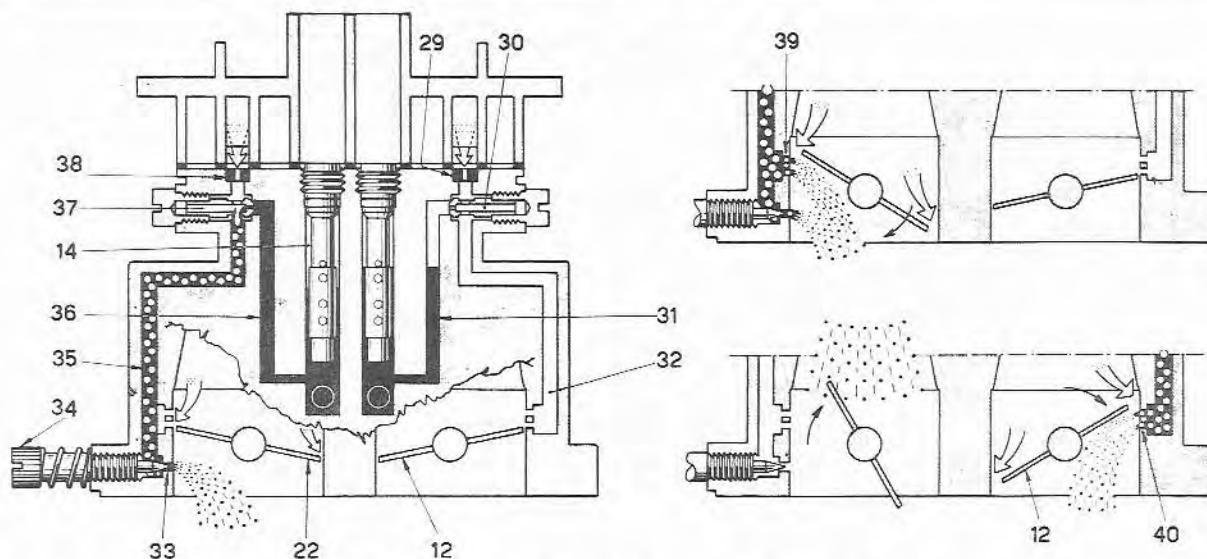

Fig. 7.4 Carburetor idling and progression phase (Sec 3)
Refer to Fig. 7.4 and note that when the engine is idling both throttle valves (12 and 22) are shut. Fuel is drawn from the
When the primary throttle valve (22) is opened slightly to increase the engine speed, the progression holes (Fig. 7.4) (39) are brought into action to provide extra fuel.